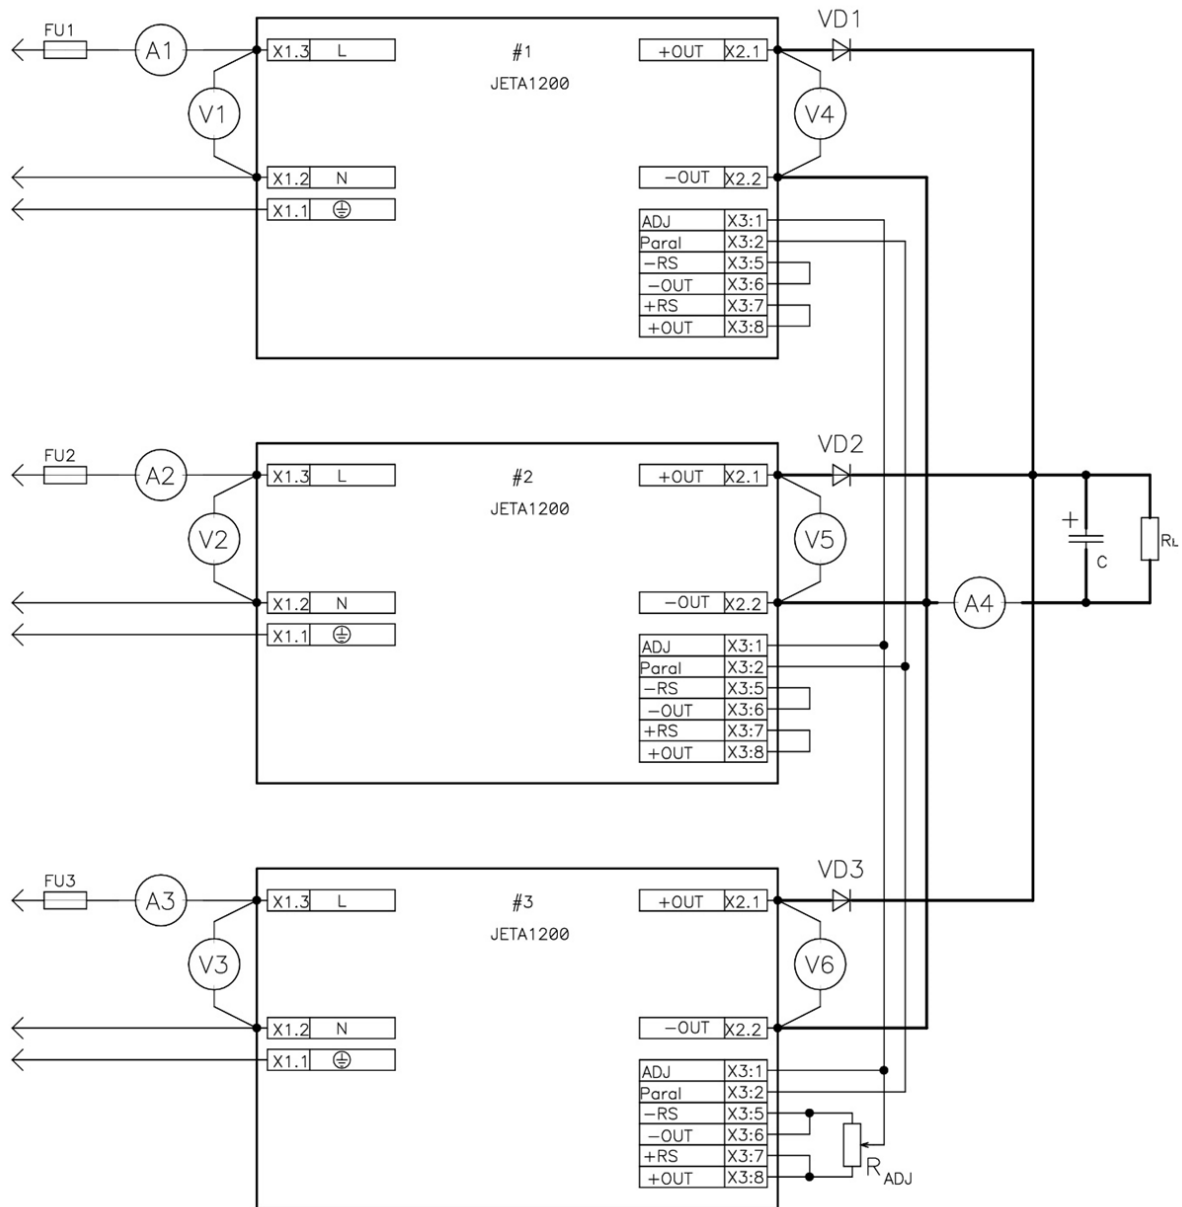

Fig. 4: modules connection scheme for adjusting device output voltage using the pin ADJ
- To test output voltage adjustment function, connection must be made according to fig. 4 with using trimmer resistor R_{adj} (part of the package).